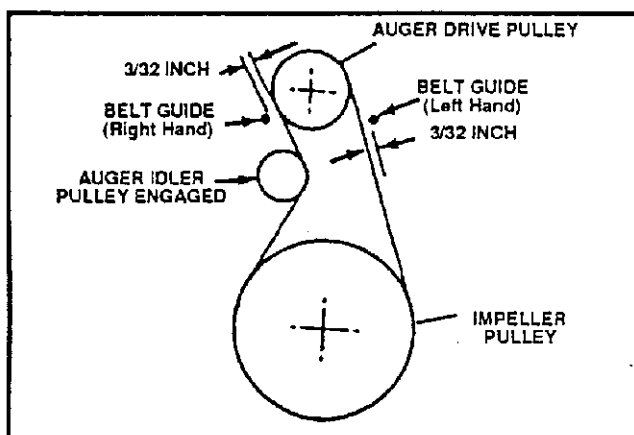

FIG. 9-SERV & ADJ
- Measure the distance between the belt guides and the belt (See FIG. 9-SERV & ADJ). The distance should be $3/32$ " for each guide.